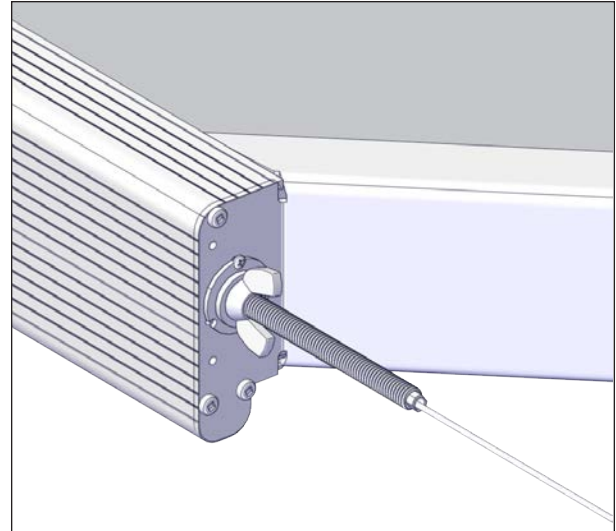
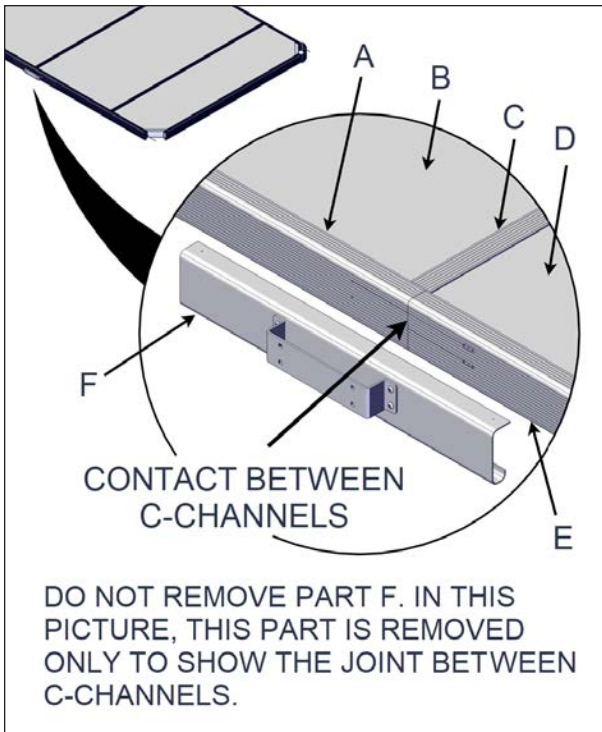

FIGURE 62: WIRE TIGHTENING
FIGURE 63: GAP BETWEEN THE C-CHANNELS
1. Wear gloves and tighten the wing nut on the hollow bolt in order to compress the panels on the I-beams. Tighten simultaneously the 4 wing nuts by keeping the same number of turns to avoid that mobile parts get stuck on the C-channels (Figure 62) and check the gap between the C-channels, see Figure 63.
2. Repeat the process again and again until the short and long C-channels touch each other, see Figure 63.